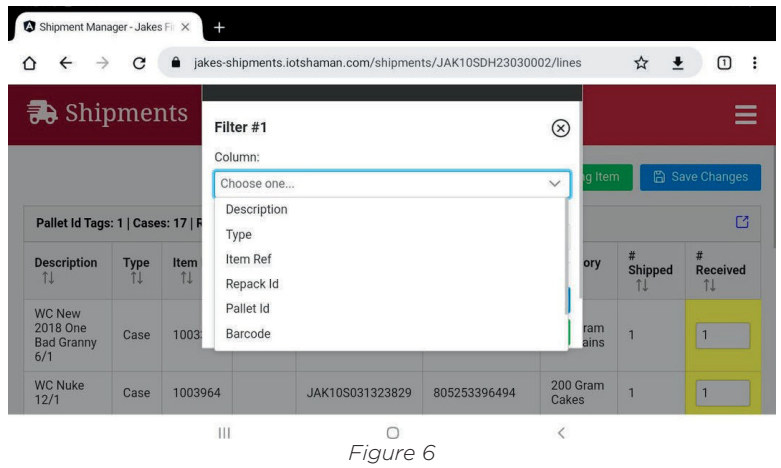

Figure 6
- c. Select the column that you wish to filter, such as ITEM REF (Figure 6)